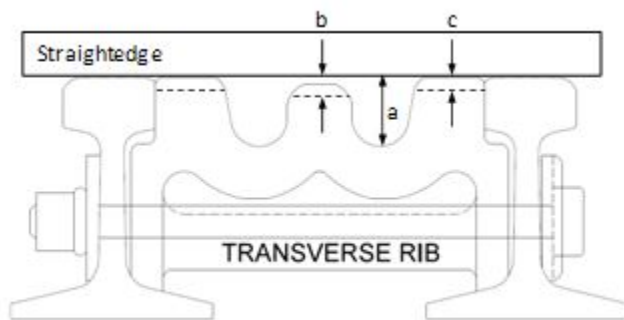

Figure 109A Frog Wear Measurement
- If the frog point is chipped, broken or worn more than 5/8 inch down and 6 inches back, operating speed will not be more than 10 MPH. (See Figure 109A)
- If the tread portion of frog is worn down more than 3/8 inch below original contour, operating speed will not be more than 10 MPH. (See Figure 109A)